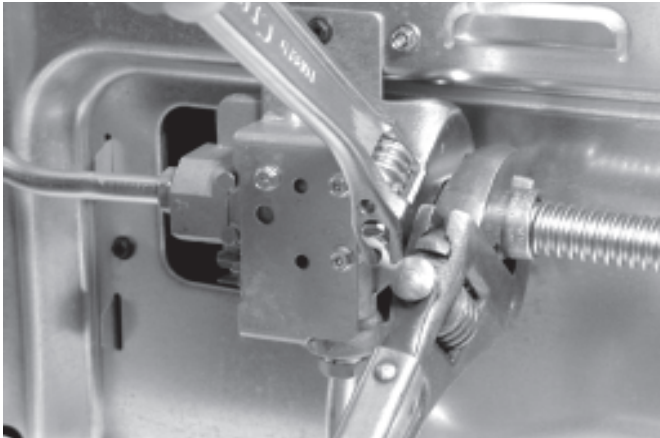

Fig. 10
- c. Tighten the gas supply fitting and/or appliance conduit to flare union adaptor on the right side of the pressure regulator (refer to Fig. 10) using **NO MORE THAN 15ft./lbs.** of torque. Be sure to **stabilize** the 1/2" flare union adapter with an adjustable wrench before tightening the gas supply fitting and/or appliance conduit.